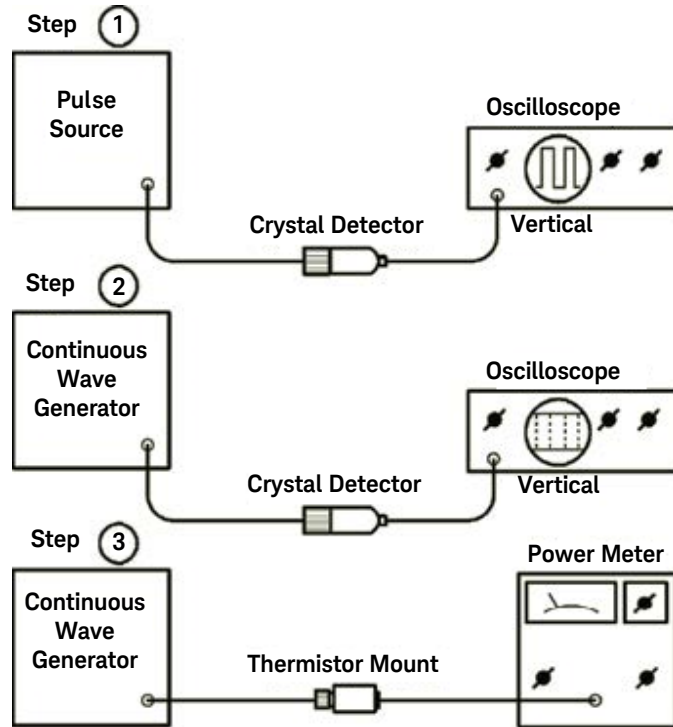

Figure 3-2 Peak power measurement
The arrangement of equipment for peak power measurement is shown in Figure 3-2. The procedure involves calibration of an oscilloscope which, in turn, is used to calibrate a CW generator.
- 1** Connect equipment as shown in Figure 3-2, step 1. Observe pulse on a DC-coupled oscilloscope. Using a marking pencil, mark on the graticule the base-to-peak amplitude of the pulse envelope.